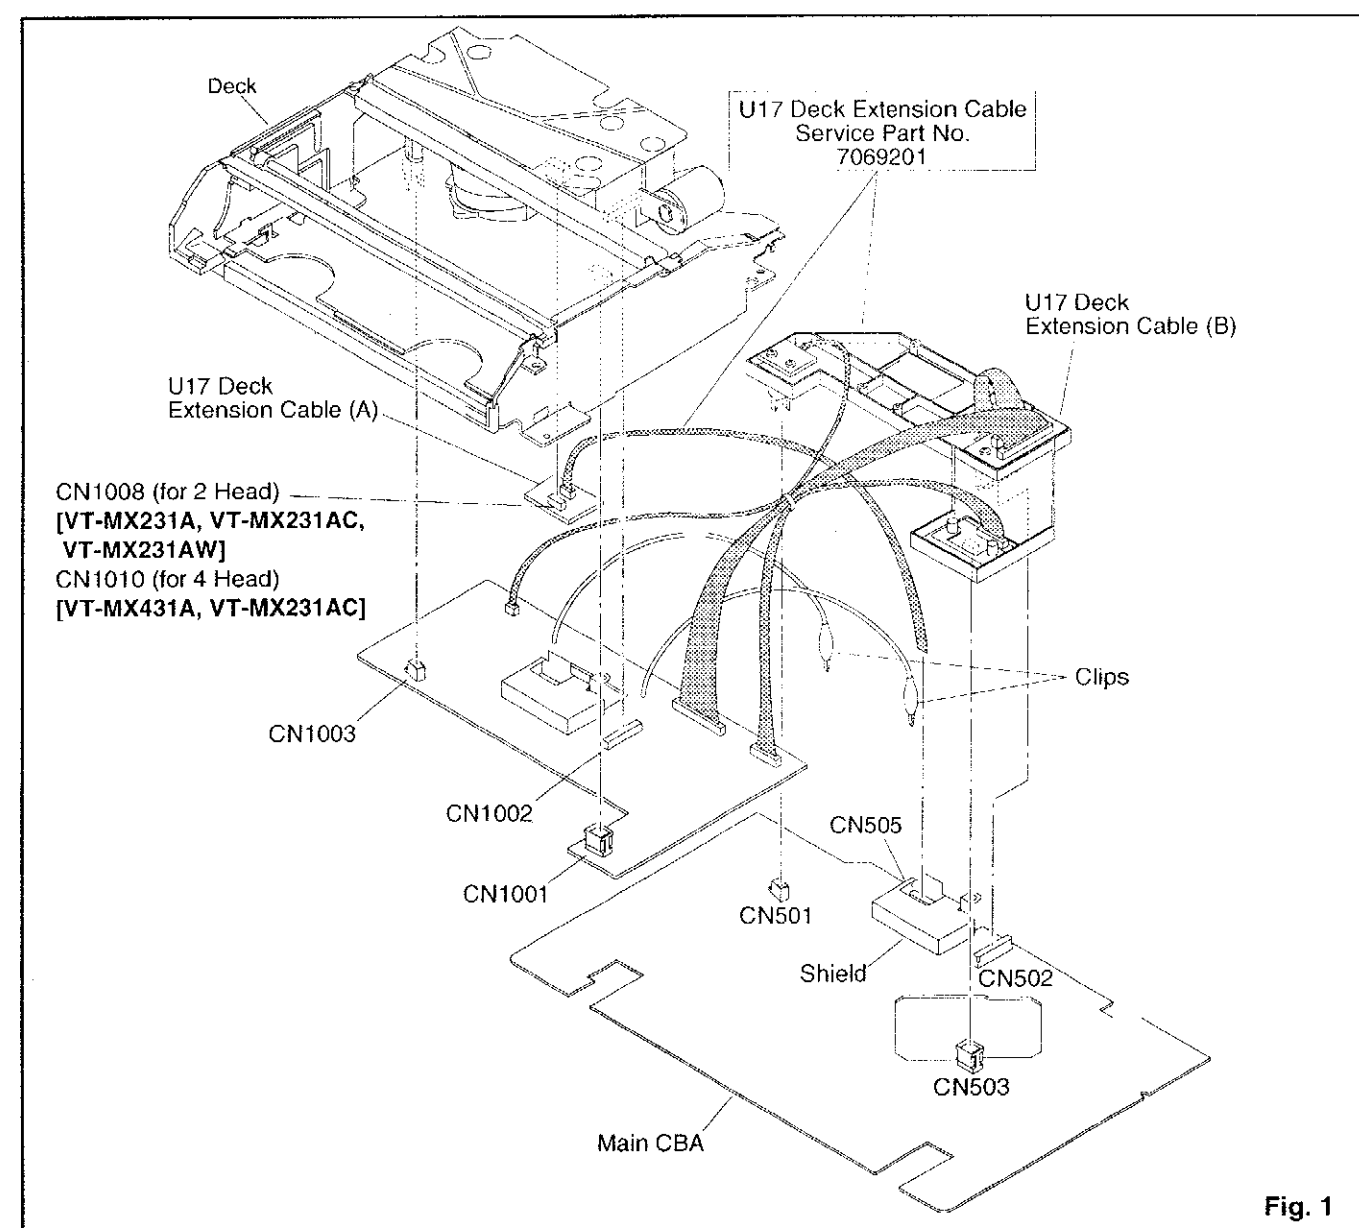

Fig. 1
- (1) Remove the Deck Mechanism Assembly. If needed, remove the Main CBA from the chassis. Refer to "Cabinet Disassembly Instructions" on page 1-6-1.
- (2) Connect Main CBA and Deck with the U17 Deck Extension Cable (A) as shown in Fig. 1. And connect Main CBA and Deck with U17 Deck Extension Cable (B) as shown in Fig. 1. Connect 2 Clips on U17 Deck Extension Cable (B) to Shield on Main CBA.